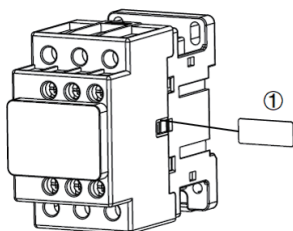

Fig. 5 Installation method of FC3 side-hung aux. contact
9.3 The installation and disassembly methods of the side mounted accessories FC3 side-hung aux. contact see Fig. 5 and Fig. 6: